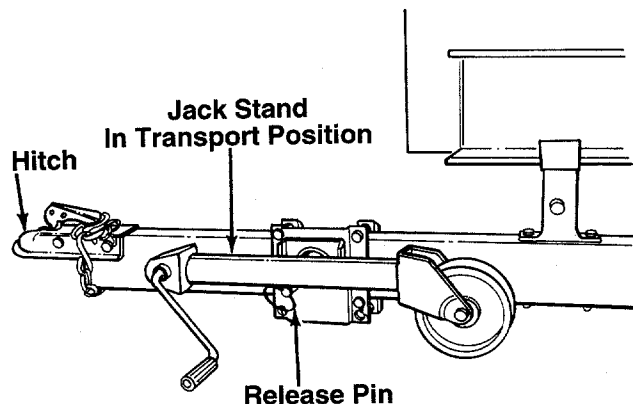

FIGURE 16.
4. Raise the jack stand wheel to its highest position. Pull out on release pin and pivot the jack stand until it locks in the horizontal position. See figure 16.